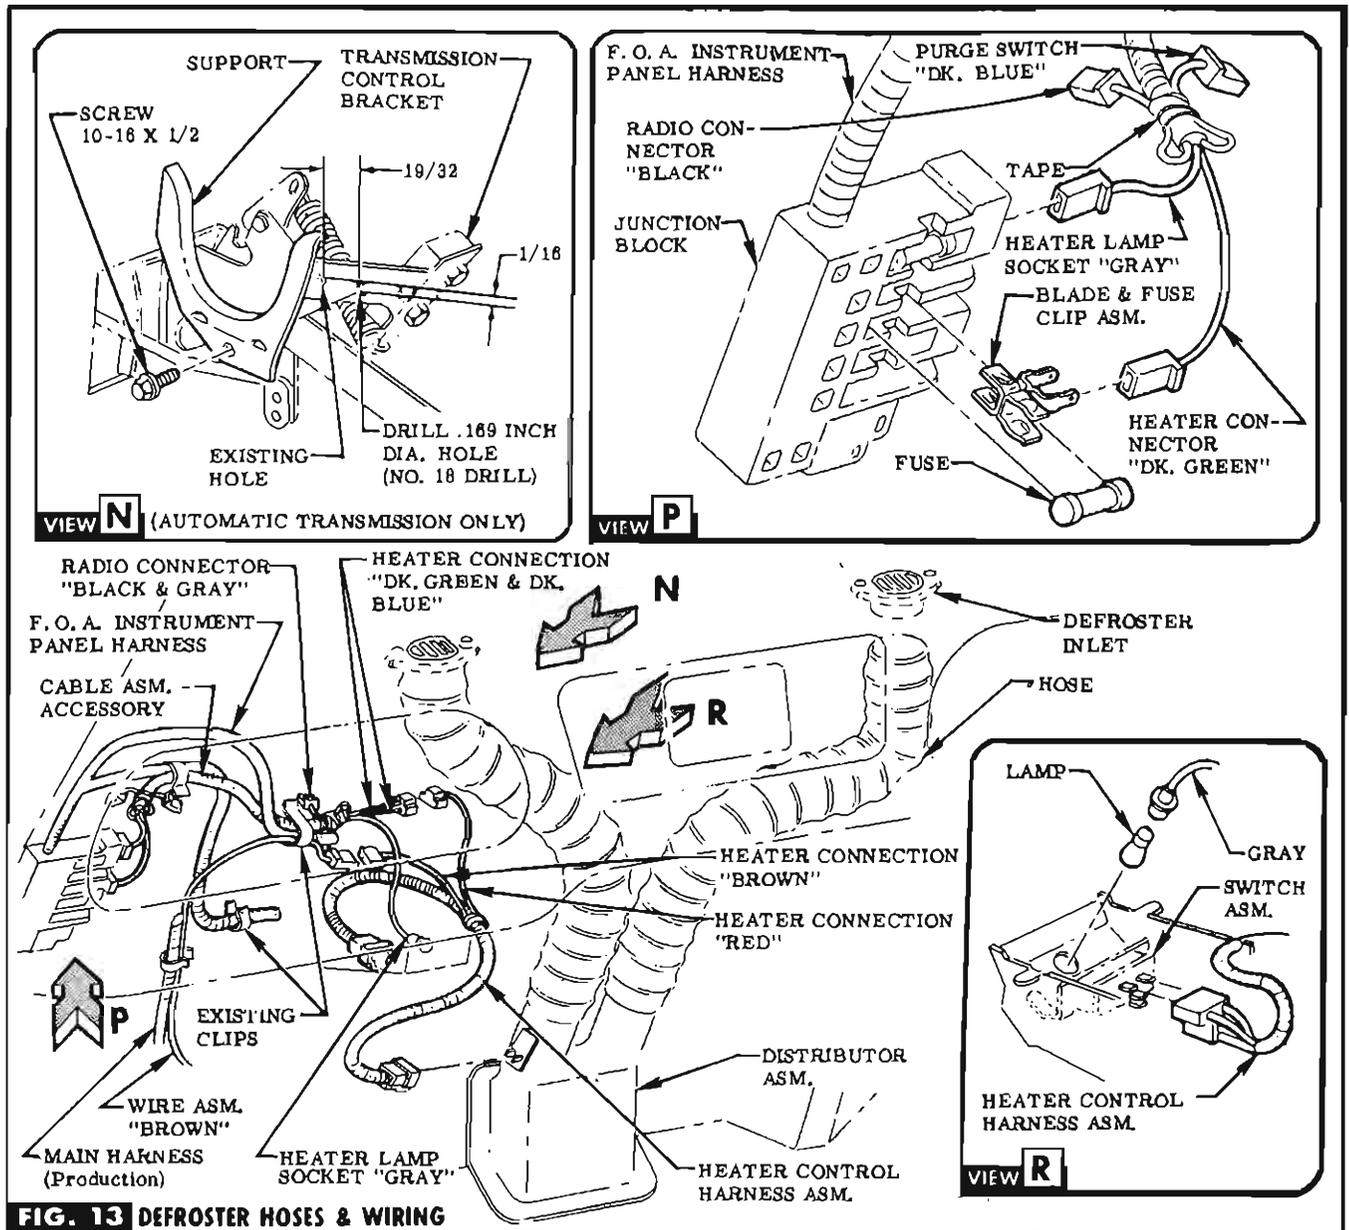

FIG. 13 DEFROSTER HOSES & WIRING
STEP 54 REMOVE INSTRUMENT PANEL COMPARTMENT. INSTALL DEFROSTER HOSES ON INLETS & DISTRIBUTOR ASM. SEE FIG. 13. REPLACE INSTRUMENT PANEL COMPARTMENT. **NOTE** If automatic transmission exists route L. H. hoses over hose support.